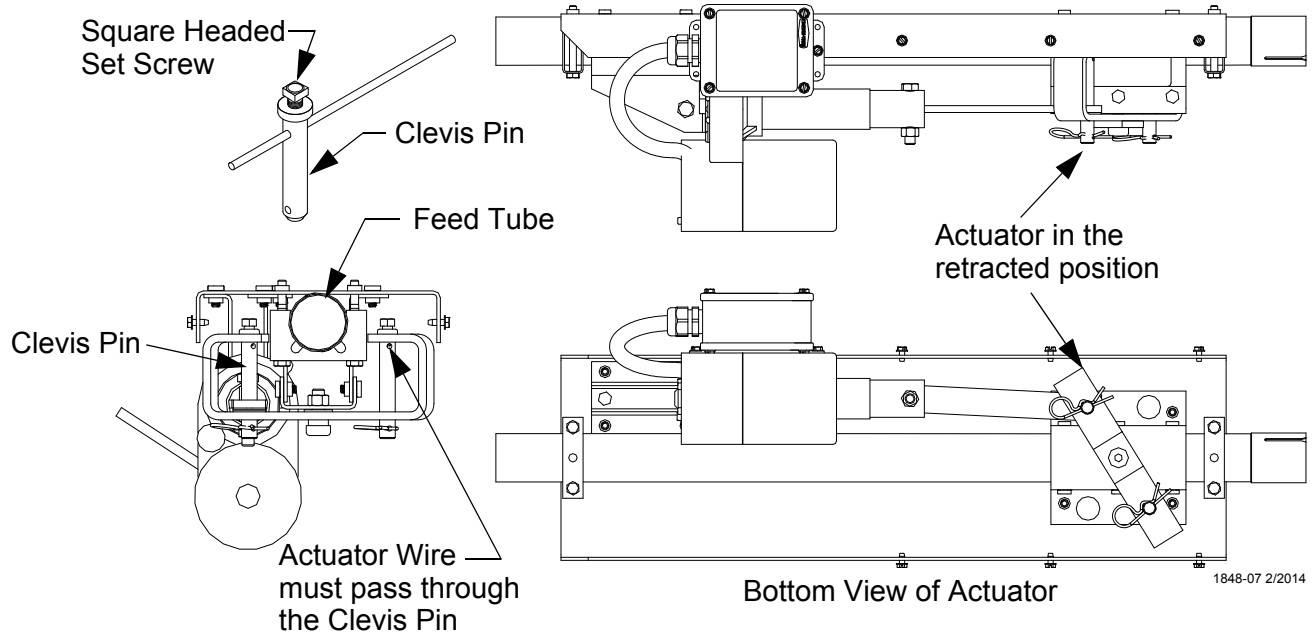

Figure 62. Actuator wire at ACCUTROL® Actuator.
- Position the actuator so the actuator is in the “Fully Open Brood Gate Position” (**Figure 62. or 5**) if it is not already in the “Fully Open Brood Gate position”.
- Tighten the set screws on the clevis pins so they clamp down on the actuator wire, see **Figure 62. and 5**.